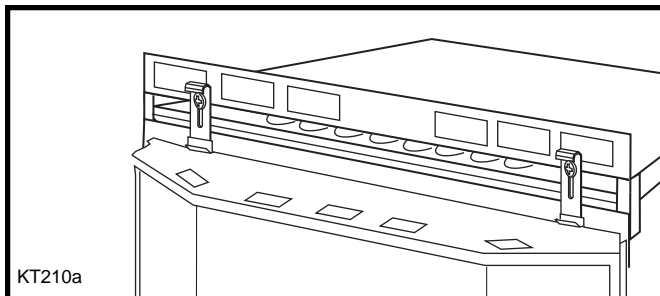

Fig. 34 Hang the window grille or the steel frame onto the lower tabs of the hanging brackets.
5. Install the bay window by hanging it onto the lower tabs of the hanging brackets, as shown in Figure 34.